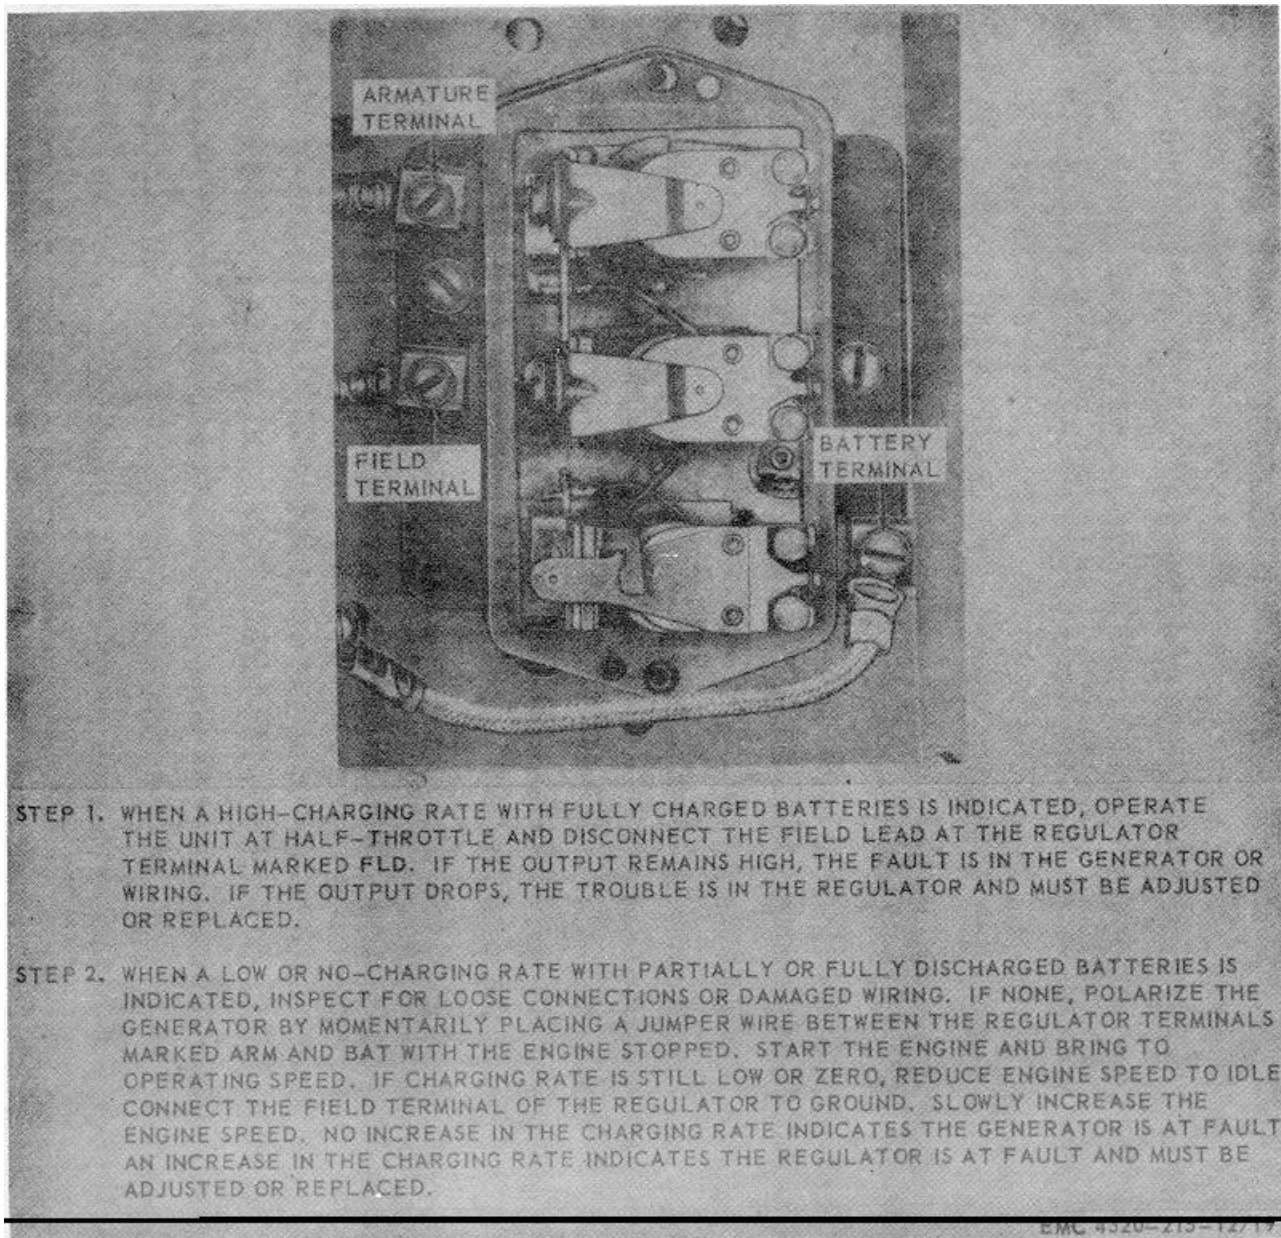

Figure 19. Generator and voltage regulator, on-engine testing.
a. Defects in the battery-charging system are indicated by a high-charging rate when the batteries are fully charged or by a low-charging rate when the batteries are low. In the event that trouble develops in the battery-charging system, perform the on-engine testing of the generator and voltage regulator as shown by figure 19.
a. Refer to figure 19 for on-engine testing of the voltage regulator.